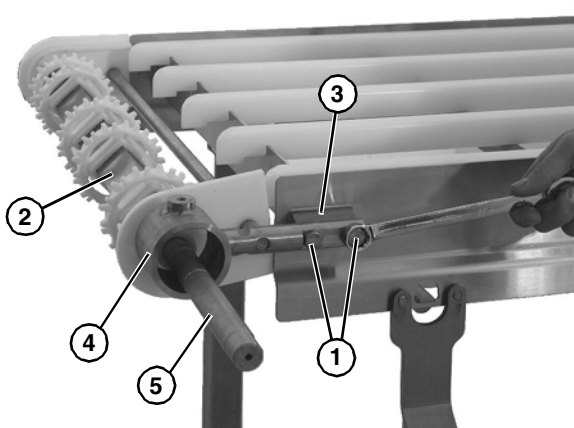

Figure 58
7. Remove two bolts (**Figure 58, item 1**) on each side, and slide the drive tail assembly (**Figure 58, item 2**) off the mounting posts (**Figure 58, item 3**).
8. Slide the motor support bracket (**Figure 58, item 4**) off the drive spindle shaft (**Figure 58, item 5**).